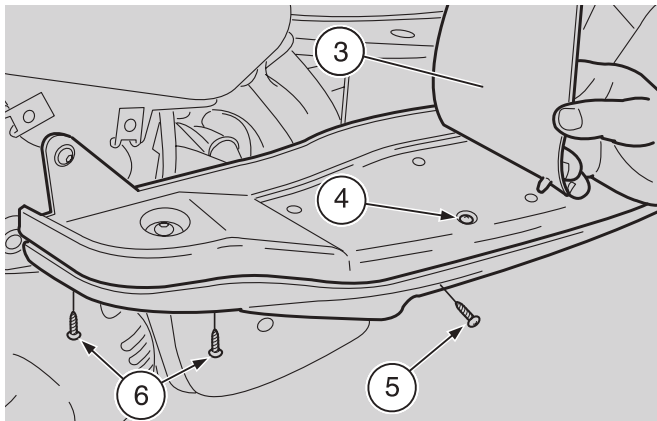

Fig. 32
- ◆ Lift the rubber mat (3).
- ◆ Unscrew and remove the screw (4), taking the washer.
- ◆ Unscrew and remove the screw (5).
- ◆ Unscrew and remove the two screws (6).
- ◆ Slightly move the rear part (7) of the lower shield.
- ◆ Release the hose clamp (8).
- ◆ Disconnect the pipe (9).
**DO NOT adjust the nuts (10) of the flange (11), but follow the procedure described below**
- ◆ Unscrew and remove the screws (12-13-Fig. 32).
**Screws (12-13-Fig. 32) driving torque:
- ◆ Unscrew and remove the two screws (14-15-Fig. 32) that fasten the silencer to the engine, taking the two bushings of the upper screw (15-Fig. 32).
**Screws (14-15-Fig. 32) driving torque: